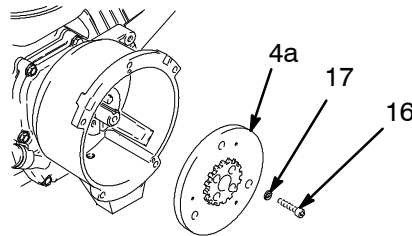

Fig. 5 8704A
8. Fig. 5. Use an impact wrench or wedge something between armature (4a) and clutch housing to hold engine shaft during removal.
9. Remove four screws (16) and lockwashers (17).
11. Fig. 5. Connect field cable (X) to pressure control. Turn field cable coupling ring until you feel detent lock into position. This prevents field cable from loosening or disconnecting when spraying.